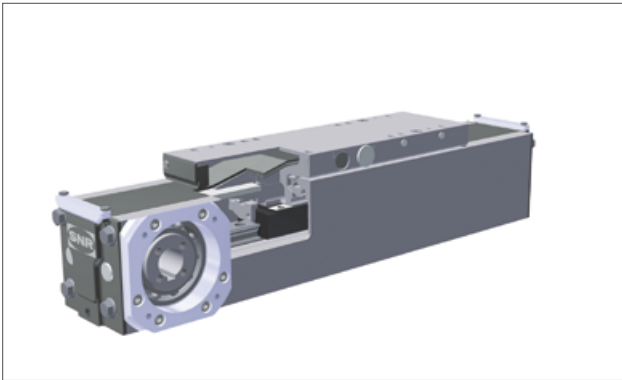

Figure 5.4 — AXF with toothed belt drive
- 2 drive versions – toothed belt drive or screw drive (Figures 5.4 and 5.5)